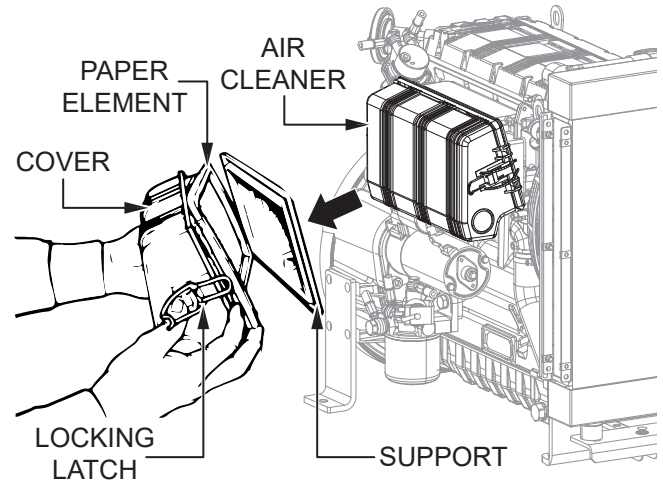

Figure 16. Air Cleaner Maintenance
1. Release the locking latch and remove the air cleaner paper element (Figure 16).
2. Clean inside the air cleaner cover (Figure 16) using a damp cloth.
6. Reinstall the paper element and air cleaner support (Figure 16). Reattach the air cleaner cover and secure it with the locking latch.